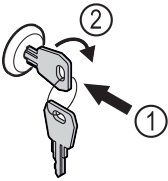

Fig. 156 Example illustration
- Insert key Fig. 156 (1).
- Turn key clockwise by 90° Fig. 156 (2).